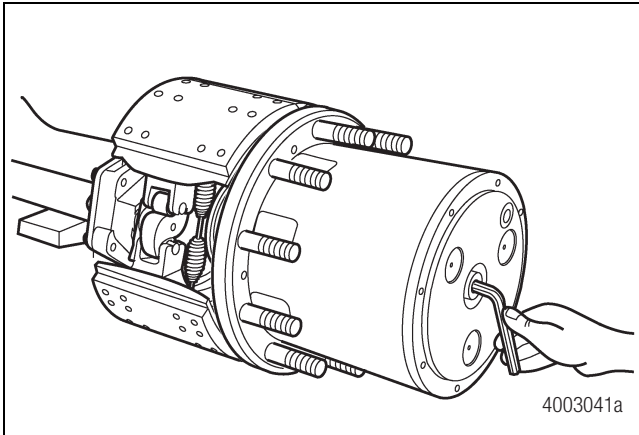

Figure 3.51
5. Use a 12 mm Allen wrench to turn the thrust screw CLOCKWISE until it contacts the thrust button to ensure that the sun gear and coupling fully contact the spindle thrust washer. Do not overtighten the thrust screw against the thrust button. Figure 3.51.